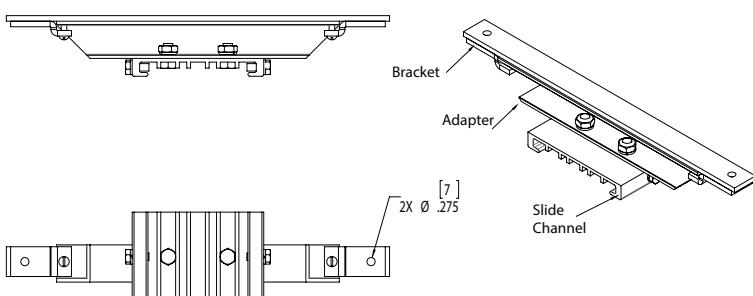

Figure 7. MP1054MTK Kit Magnapro Mount Kit Details
5. Install one (1) channel adapter with slide channel onto each MP1054MTK bracket. Slide the long edge of the channel adapter into the slots on the bracket and tighten the two (2) Phillips head screws on the ends of each MP1054MTK Kit bracket. Make sure the slide brackets are parallel to each other (see Figure 7).
6. Fixture is now ready for mounting. It is strongly suggested to use two (2) qualified tradespeople to proceed with the final mounting of the fixture. This is recommended to avoid any personal injury or damage to the fixture.
8. Tighten the two (2) 1/4" set screws on each slide bracket until they bottom (see Figure 7). Torque to 78 in.-lbs. (8.8 N-m).